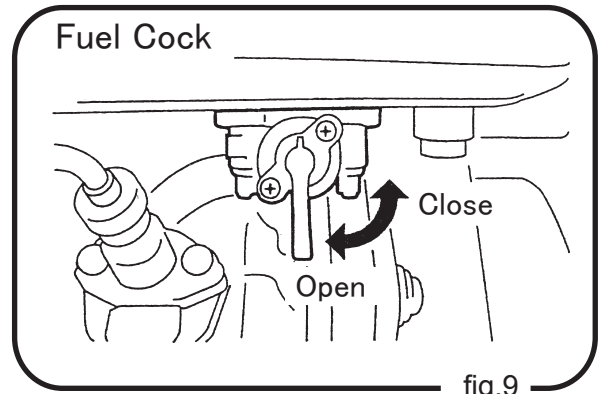

fig.9
1. Open the fuel cock lever. (Fig 9)